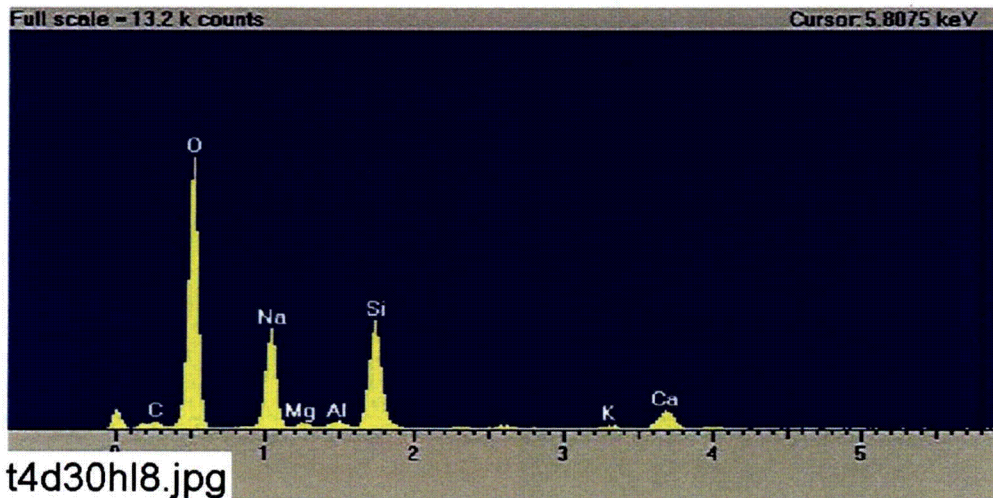

Figure C5-7. EDS counting spectrum for the spot of substance attached on fiberglass shown in Figure C5-6. (t4d30hl8.jpg)
- Figure C5-7. EDS counting spectrum for the spot of substance attached on fiberglass shown in Figure C5-6. (t4d30hI8.jpg)..... C5-7